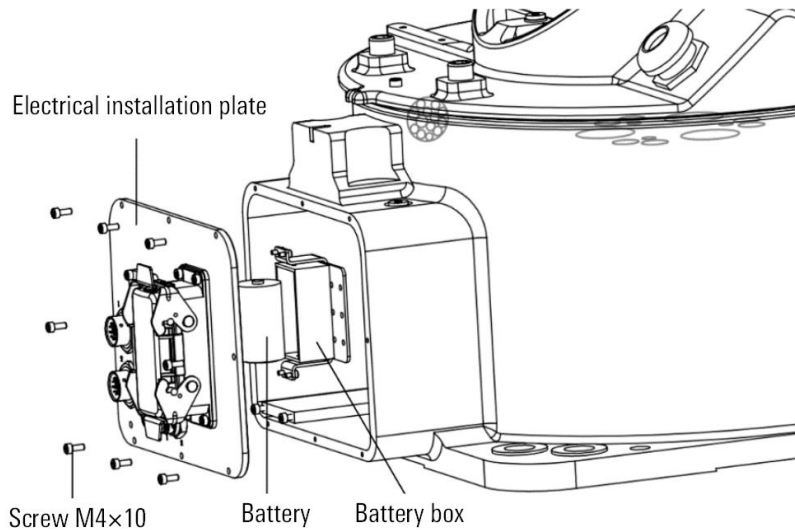

Figure 12-5 Remove manipulator electrical installation panel
- Step3. Remove the battery cover on the electrical mounting plate of manipulator as shown in Figure 12-5.